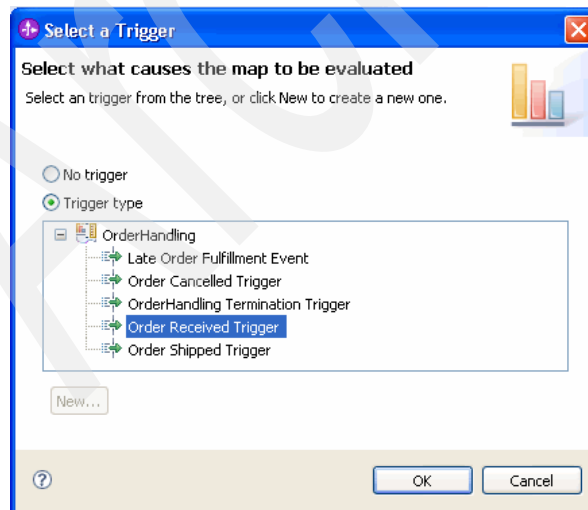

Figure 5-40 Trigger selection for the City metric
- iii. In the Select a Trigger window (Figure 5-40), select **Trigger type**. Then expand **OrderHandling** and select **Order Received Trigger**. Click **OK**.